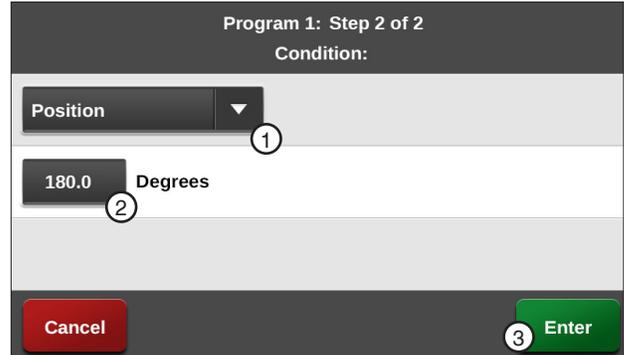

Figure 109-1 1. Position Condition 2. Degrees 3. Enter
5. Program the position condition for this step. Refer to Figure 109-1.